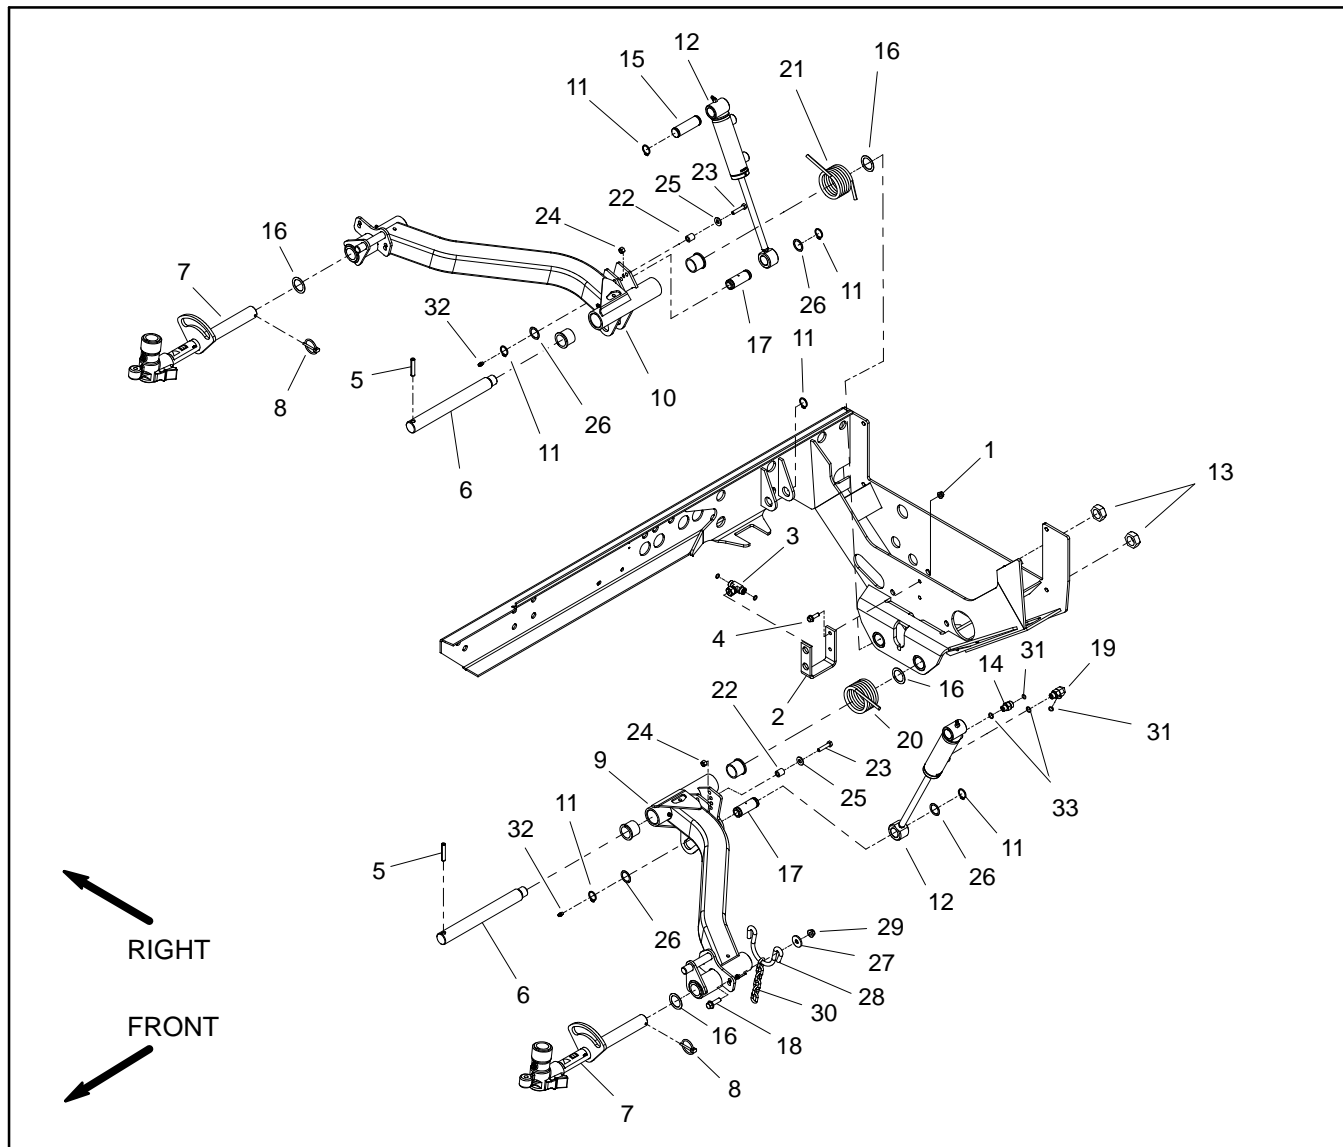
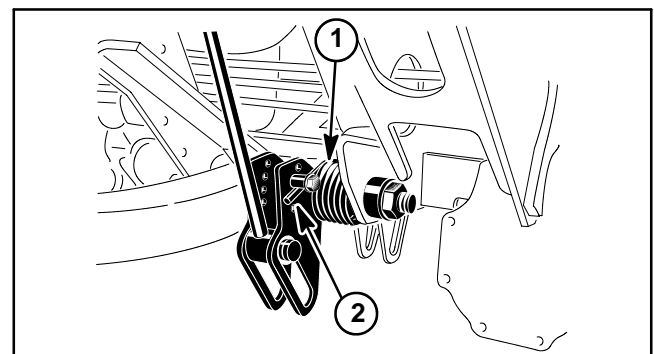

Figure 9
Figure 11
Removal (Fig. 9)
4. Remove tension from torsion spring on rear of lift arm tube (Fig. 11):
5. Loosen and remove lock nut (item 13) from lift arm pivot pin.
6. Support lift arm and pull lift arm pivot pin from lift arm and frame. Locate and remove thrust washer (item 16) from rear of lift arm during pivot pin removal.
8. Disassemble lift arm as needed using Figure 9 as a guide.
Installation (Fig. 9)
3. Position lift arm to frame (Fig. 9). Fit thrust washer (item 16) between rear of lift arm and frame. Slide pivot pin into frame and lift arm. Align roll pin in pivot pin with slot in frame flange.
4. Install and tighten lock nut (item 13) to secure lift arm pivot pin.
6. Make sure that one (1) retaining ring and washer are installed on cylinder pin (item 17). Insert cylinder pin through the lift arm and lift cylinder clevis. Secure pin with second washer and retaining ring. Make sure that retaining ring is fully seated in pin.
7. Apply tension to torsion spring (Fig. 11):